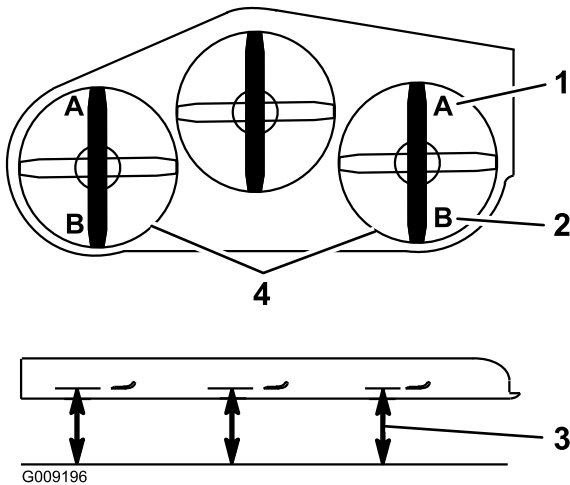

Figure 94
- 9. On both sides of the deck, measure from the level surface to the front tip of the blade (Position A). The measurement should read 3 inches (7.6 mm) (Figure 94).
16. On both sides of the deck, measure from the level surface to the back tip of the blade (Position B). The measurement should read 3 1/4 inches (8.3 cm) (Figure 94).